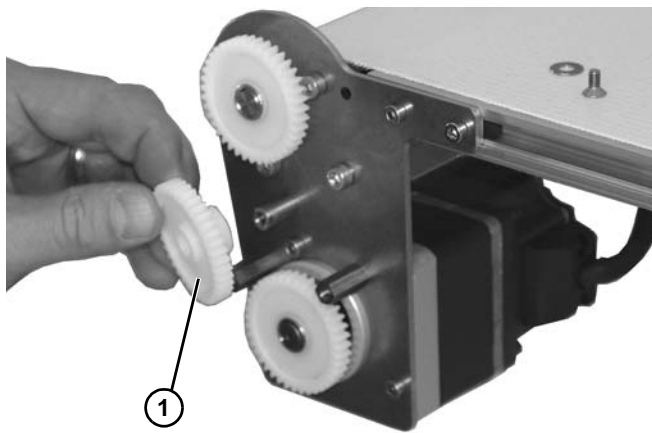

Figure 14
9. Remove center gear (Figure 14, item 1).